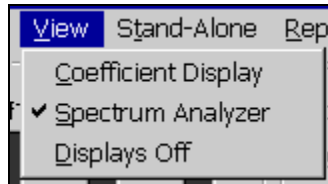

Figure 3-15 Tutorial Display Select Menu
53. To return to the Spectrum Analyzer display, click on **View** and select the **Spectrum Analyzer** menu option as shown in Figure 3-15.